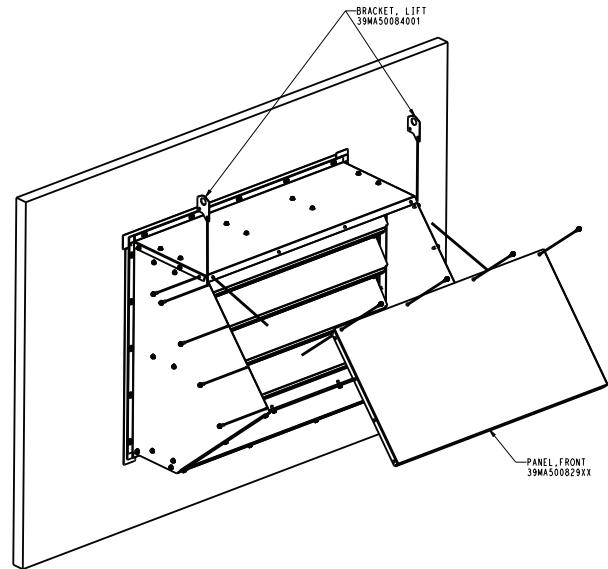

Fig. 85 — Attaching the Front Panel and Lifting Brackets
14. Attach front panel to power exhaust assembly using the 1/4 in.-14 x 5/8 in. long sheet metal screws (without neoprene washer.) Also, attach the lifting brackets to each side of the top of the assembly using the 1/4 in.-14 x 5/8 in. long sheet metal screws (without neoprene washer.) See Fig. 85.